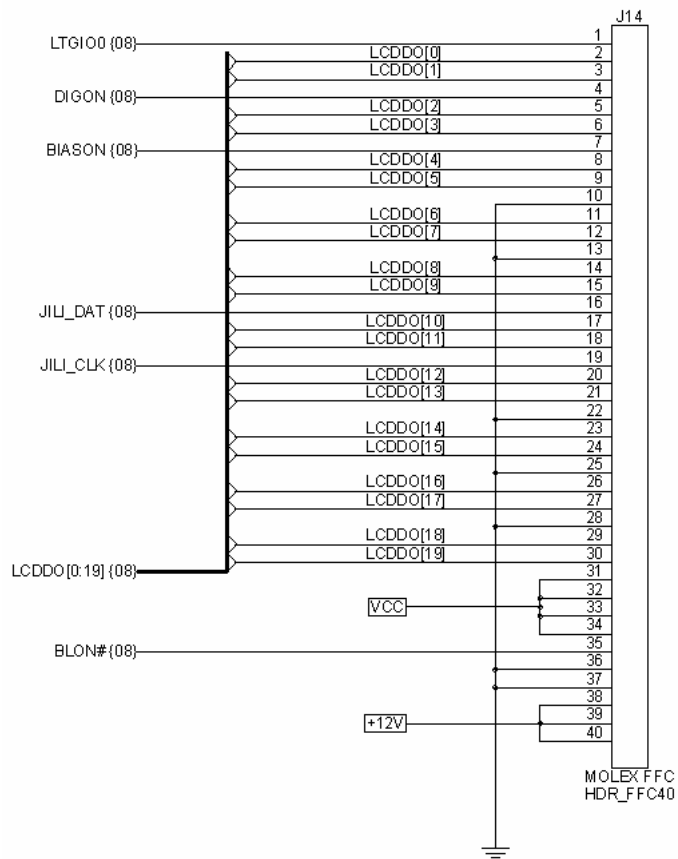

Figure 10 – JILI Connector for Flat Panel LVDS Interface
- If a parallel flat-panel interface is used, consider implementing the interface using the same connector and pinout used for JILI operation (shown in Figure 10), and a "receiver board" to connect the parallel signals on the flat foil cable to the display. This implementation provides an easy upgrade path to an ETX module with an LVDS interface.
5.6 Television (TV) Out